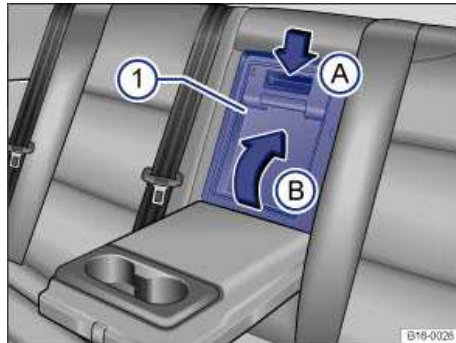

Fig. 83 In the rear backrest: Opening luggage compartment pass-through.
- Push down the release button ⇒ fig. 83 \(A\) and fold the pass-through cover (1) down into the luggage compartment (B).